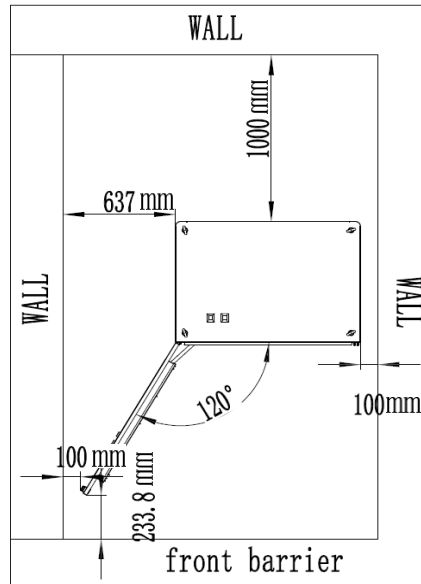

Figure 5 Schematic diagram of inspection distance of 180kW power cabinet
(1) The inspection distance requirement for 240kW power cabinet is shown in Figure 5: